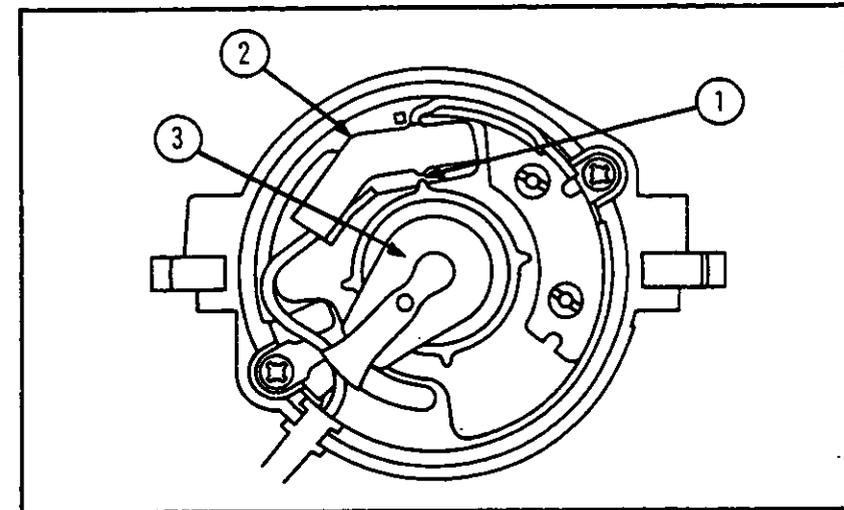

Fig. 17 Reluctor tooth position
Note: Where electronic (breakerless) ignition is used, turn the distributor body to align the nearest reluctor tooth (1, fig. 17) with the pick up arm (2) and ensure that the rotor arm (3) is aligned with number 1 spark plug lead for correct timing.